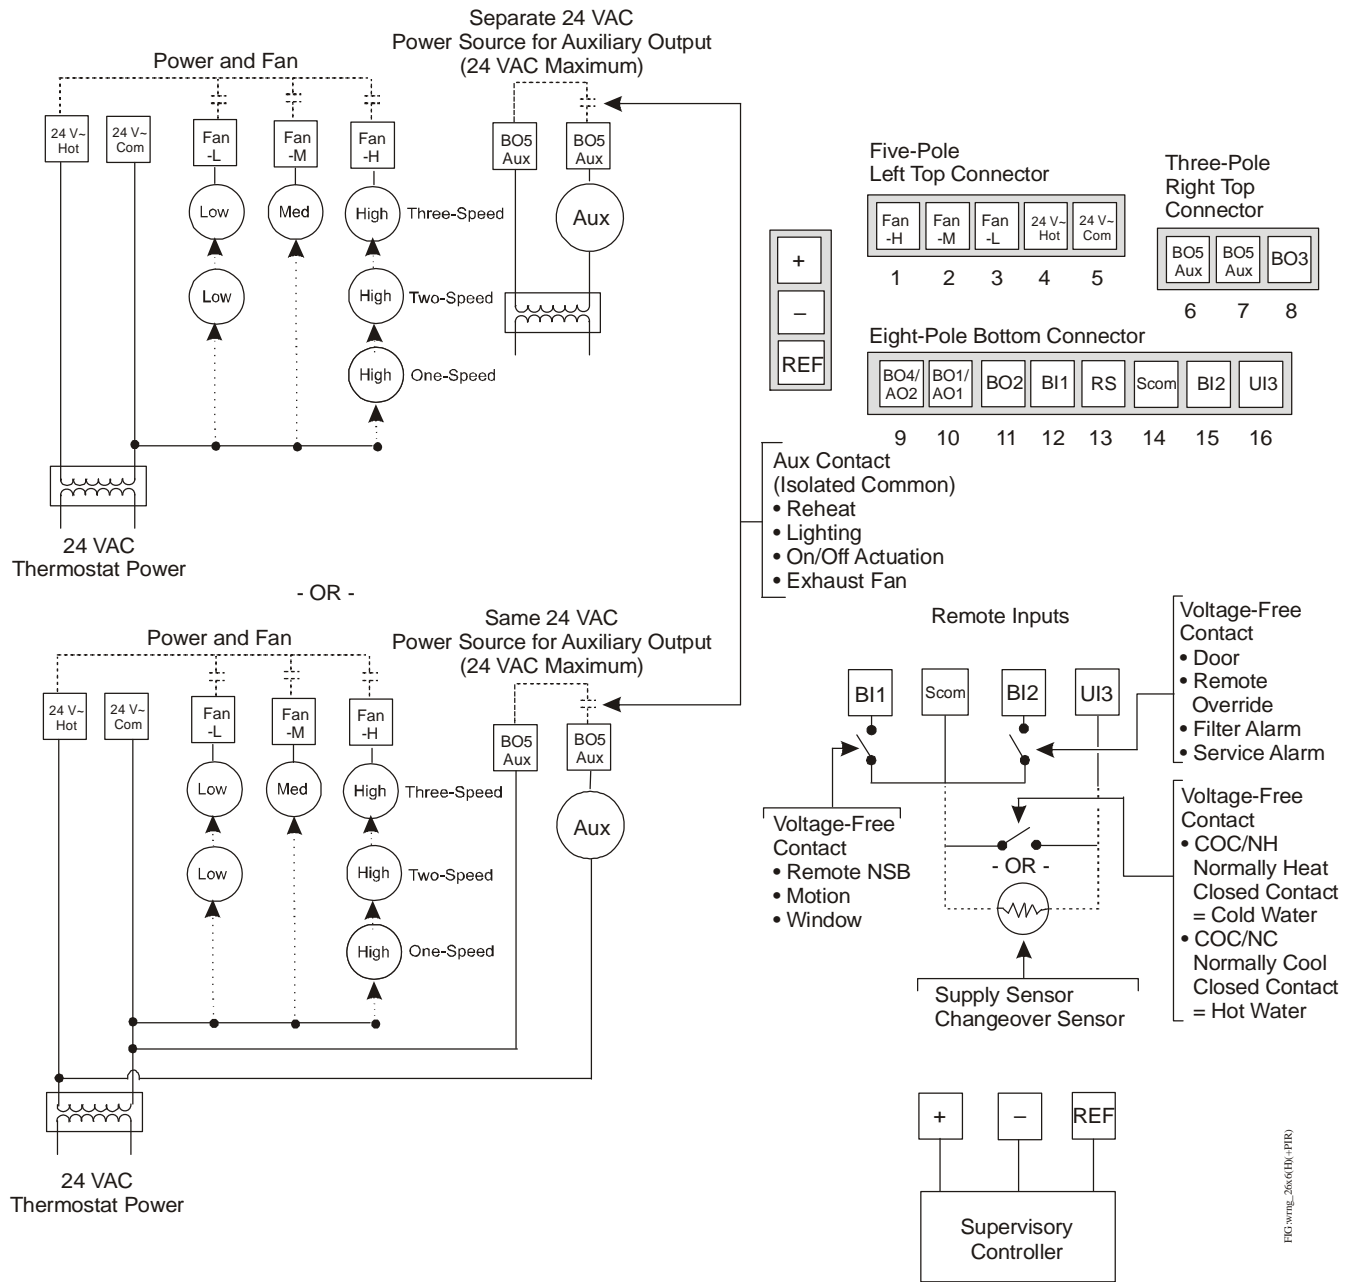
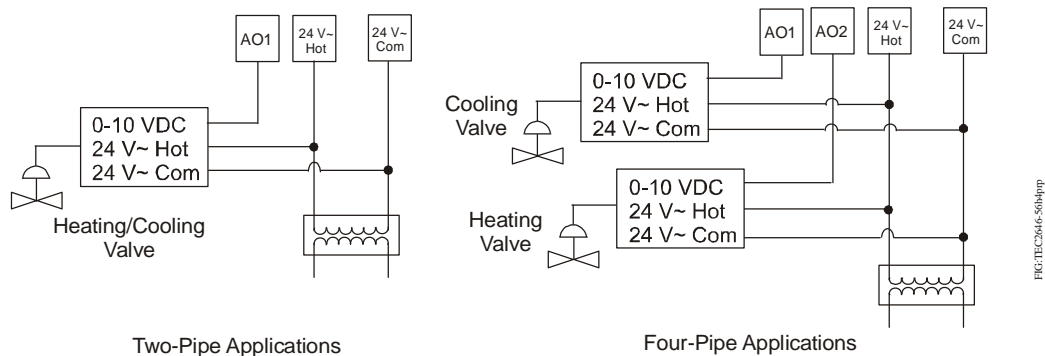

Figure 5: Wiring the TEC26x6(H)-4 or TEC26x6H-4+PIR Series Thermostat Controller (See Table 1)
Figure 9: Wiring TEC2646(H)-4 and TEC2656(H)-4 Thermostat Controllers for Proportional Control
1. Strip the ends of each wire 1/4 in. (6 mm) and connect them to the appropriate screw terminals as indicated in Table 1 and Figure 5 through Figure 9.
Table 1: Terminal Identification (See Figure 5.)